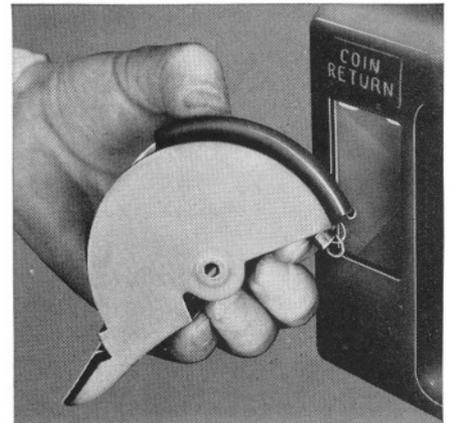

FIG. 2
**6.** Hold bucket as shown in Fig. 2. Support springs with finger so that springs extend slightly into chute opening.